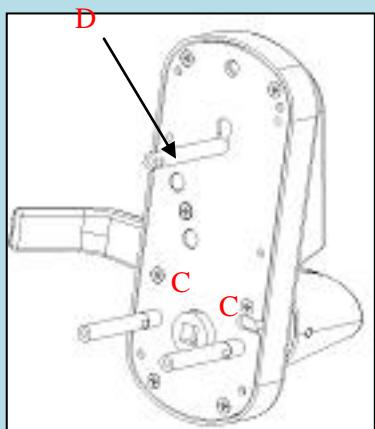

Fig 3
Screw in and tighten the two fastener extensions (C) into the front lock fastener posts located on both side of the center hub. If desired, fasten and tighten the upper fastener extension (D) (Fig 3). Note: The upper fastener extension (D) to stabilize the lock is optional.